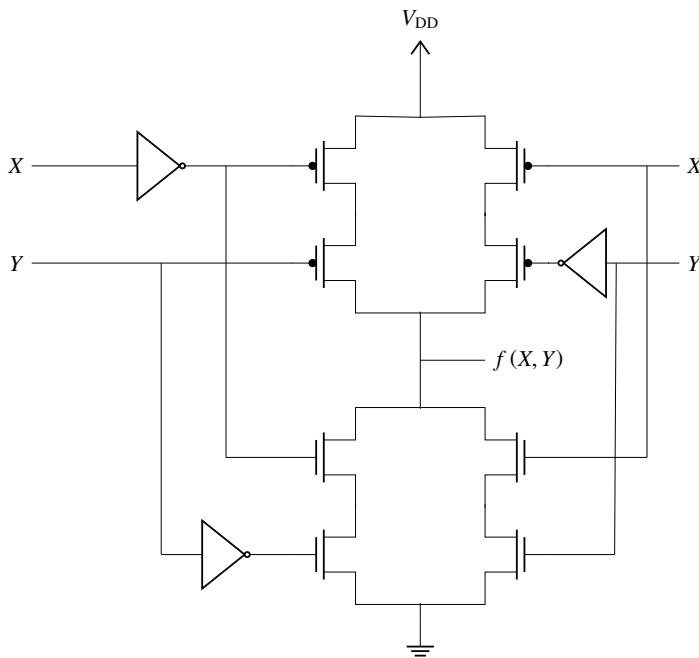

Fig. 3.34
50. The logic function $f(X, Y)$ realised by the given circuit in Fig. 3.34 is GATE-EC